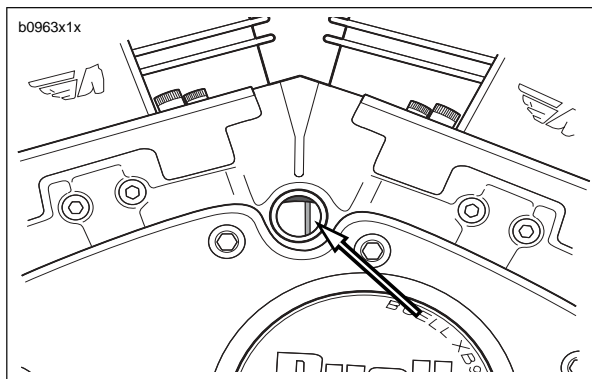

Figure 1-54. Retard Timing
4. See Figure 1-54. If timing is retarded (mark appears on right side of window) rotate timing plate clockwise.